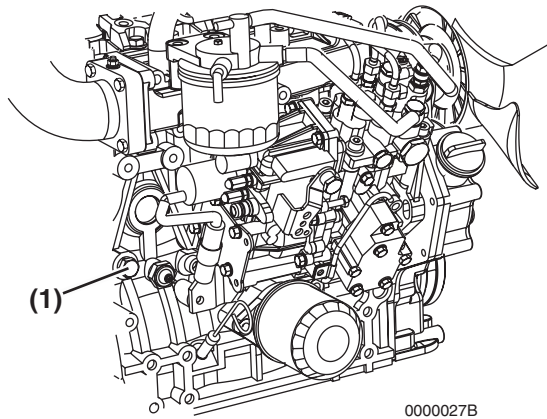

Figure 19
- On models not equipped with an oil cooler, remove the coolant drain plug (**Figure 19, (1)**) from the engine block.